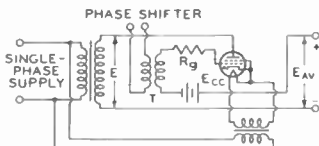
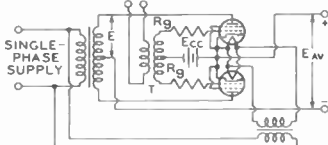
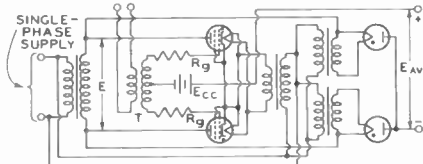
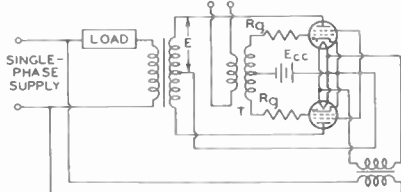

FIG. 1 HALF-WAVE SINGLE-PHASE
FIG. 2 FULL-WAVE SINGLE-PHASE
FIG. 3 SERIES SINGLE-PHASE
FIG. 4 FULL-WAVE SINGLE-PHASE
IN FIG. 3, THE RECTIFIER TUBES MAY BE 3D22-A's USED AS DIODES. THE 3D22-A IS USED AS A DIODE BY CONNECTING GRIDS N°2 AND N°1 TO CATHODE (PIN 3)
| RATIO | Fig. 1 | Fig. 2 | Fig. 3 | Fig. 4 |
■ The use of a large filter-input choke is assumed, except for the circuit in Fig. 4.
| Fig. 1 Half-Wave | 460 | 205 | .8 | 65 | - |
| Fig. 2 Full-Wave: Resistive Load | 460 | 410 | 1.6 | 660 | - |
| Fig. 3 Series | 460 | 410 | 1.6 | 660 | - |
| Fig. 4 Full-Wave | 46 | - | - | - | 800 |